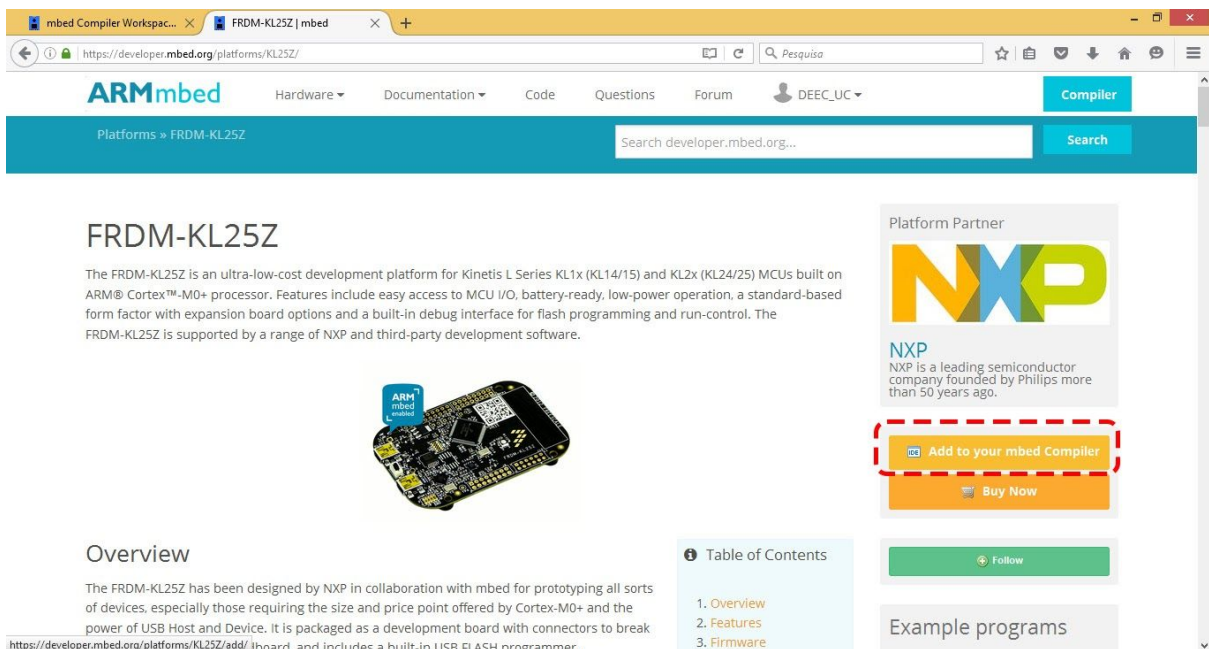

Figure 9. Adding platform webpage with the button to click highlighted.
- Click on Add to your mbed Compiler button (see figure 9). The page will be updated, showing on top a message identifying the platform added.